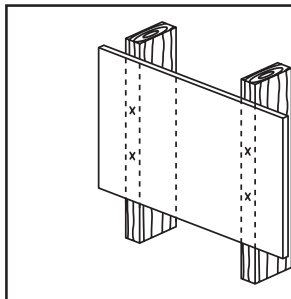

Fig. 1
3. While another person holds the wall plate in position, mark four locations (two per stud) for securing the mount to the wall (see Fig.1).